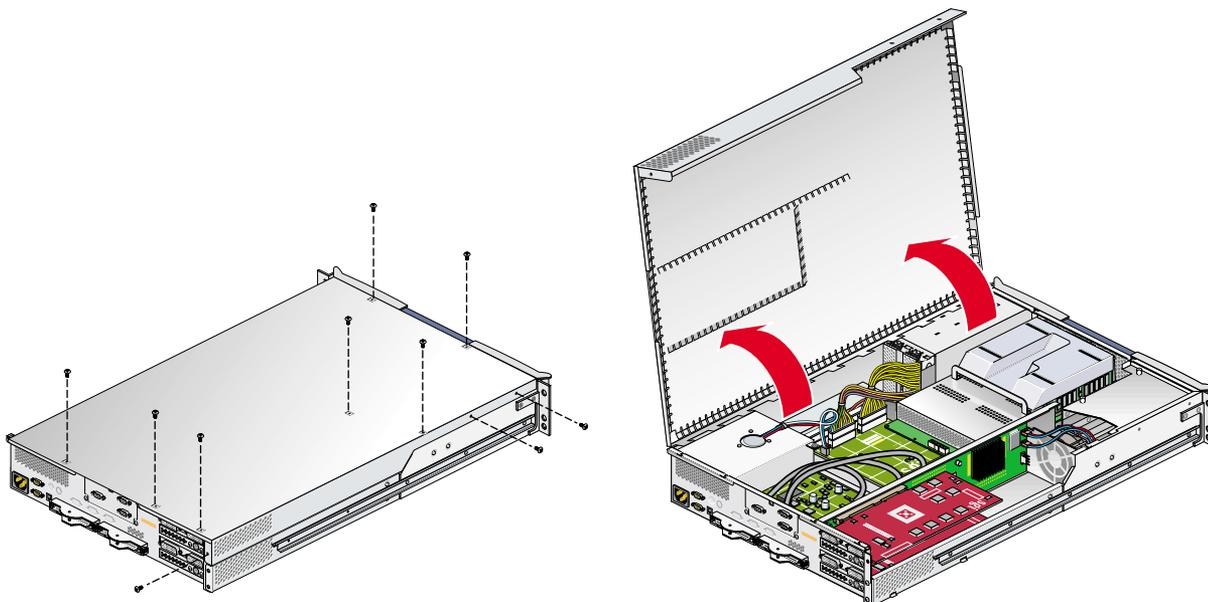

Figure A-5 Opening Module Cover
1. Remove the ten Phillips screws shown in Figure A-5